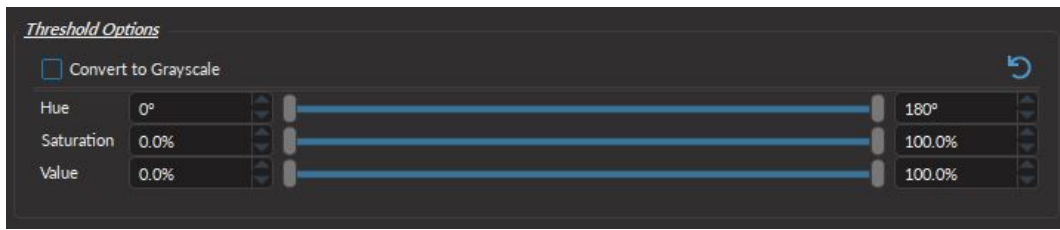

Figure 6.23: Threshold settings
- a) The **Hue** (Fig. 6.23) sets an absolute color as threshold values. The Hue is a number between 0 and 180 degrees, where red: 0-30°; yellow: 30-60°; green: 60-90°; cyan: 90-120°; blue: 120-150°; magenta: 150-180°. **Useful if using thermal camera**.
- b) The **Saturation** (Fig. 6.23) describes the intensity of the pixel. Saturation is a percentage ranging from 0% (grayscale) to 100% (pure color).
- c) The **Value** (Fig. 6.23) sets the pixel value as threshold. The value is a percentage that ranges from 0% (black) to 100% (white).